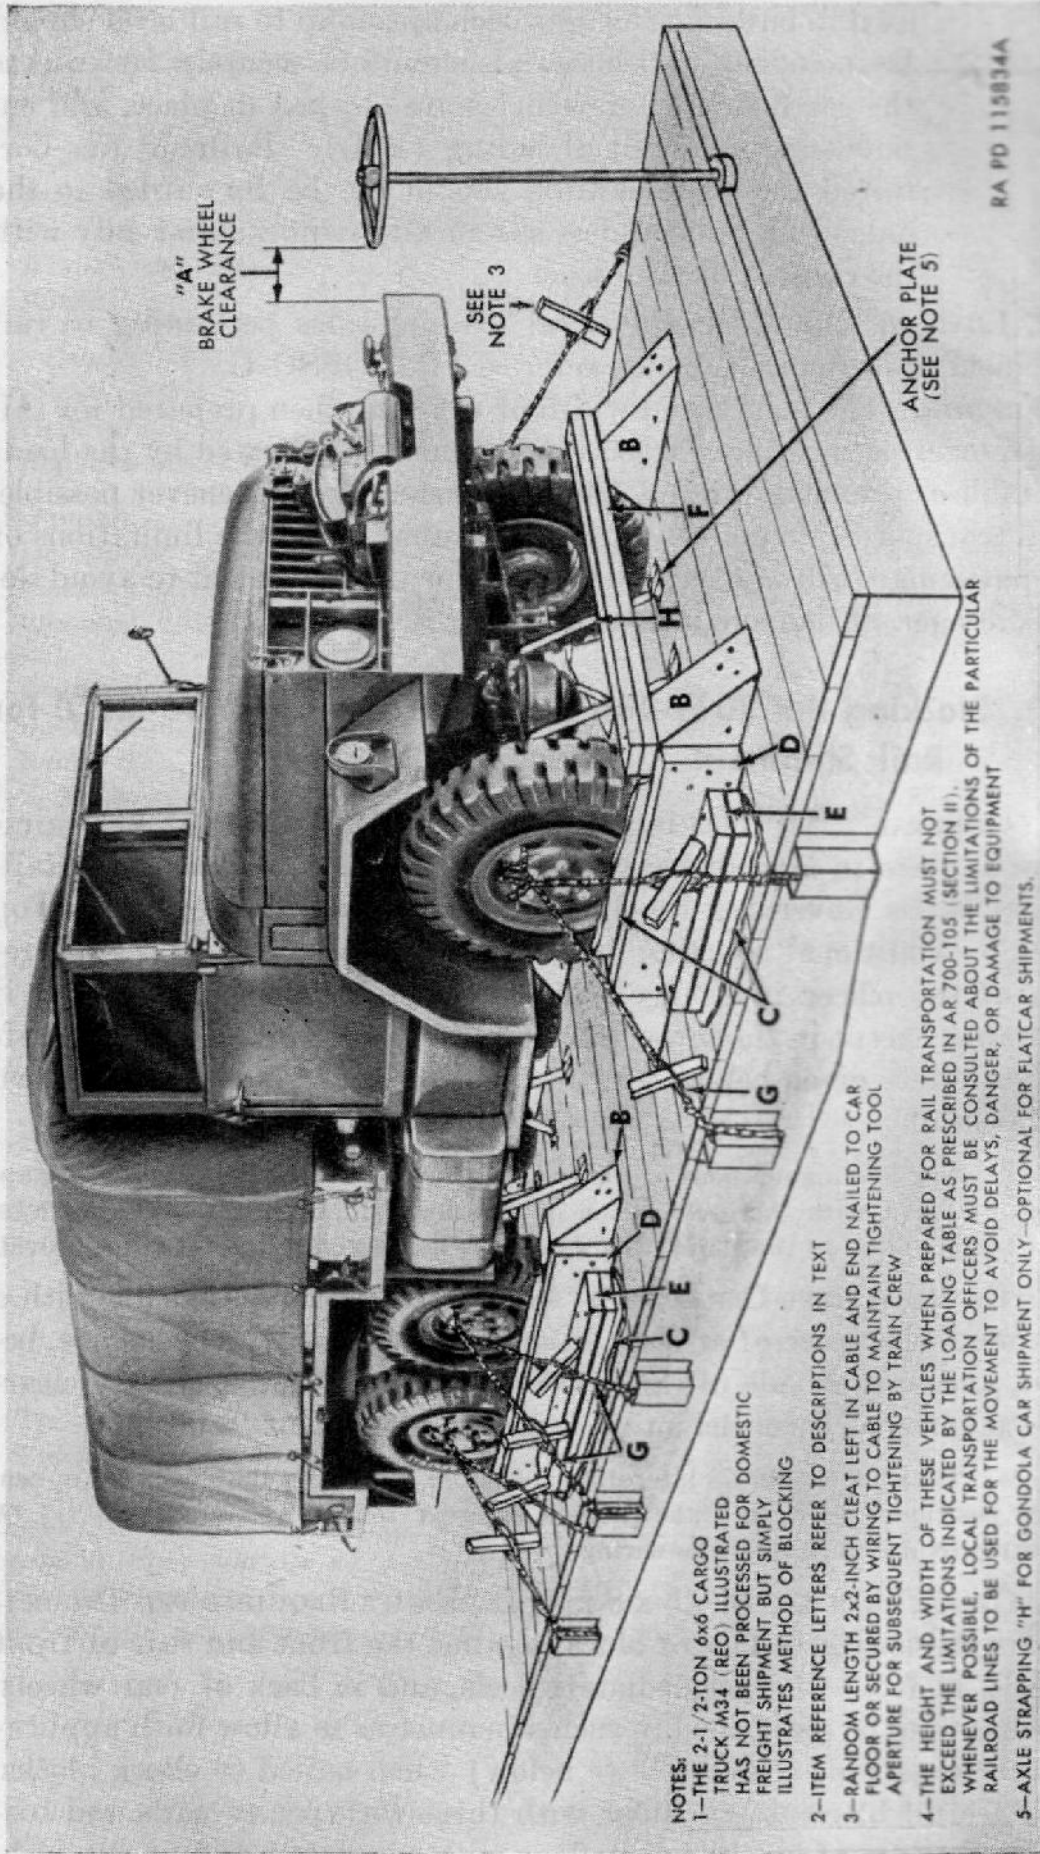
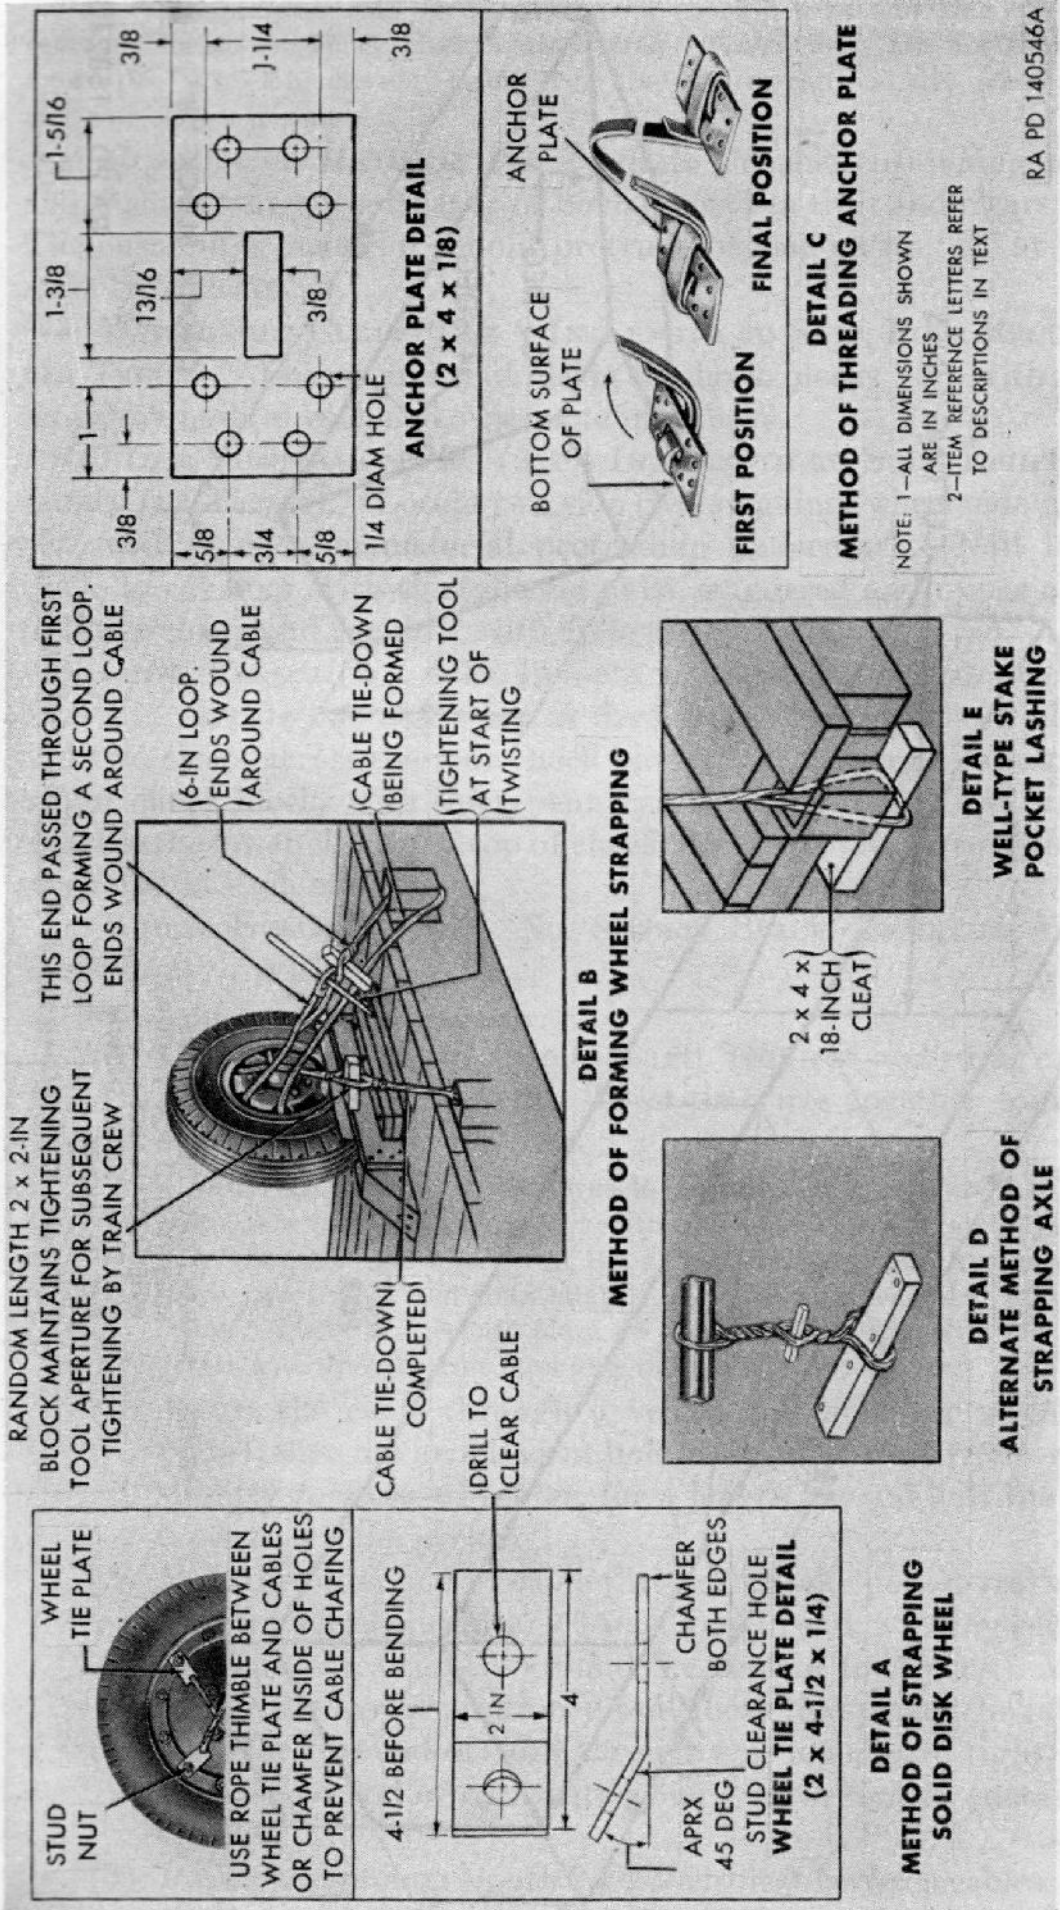

Figure 169. Method of blocking the 2 1/2-ton 6 x 6 cargo truck M34 (REO) for rail shipment.
Figure 170. Method of blocking the 20 1/2-ton 6 x 6 cargo truck M135 (REO) for rail shipment—blocking details.
a. GENERAL. All blocking instructions specified herein are minimum and are in accordance with the Association of American Railroads "Rules Governing the Loading of Commodities on Open Top Cars." Additional blocking may be added as required at the discretion of the officer in charge. Double-headed nails may be used if available, except in the lower piece of two-piece cleats. All item reference letters given below refer to the details and locations as shown in figure 169.
b. BRAKE WHEEL CLEARANCE "A." Load trucks on flatcars with a minimum clearance of at least 4 inches below and 6 inches above, behind, and to each side of the brake wheel (fig. 169). Increase clearance as much as is consistent with proper location of load.
Note. Filler cleats may be used between chock blocks and side cleats to centrally locate the chock block against tires. These cleats are not shown in figure 169. Chock blocks may be cut from timbers (or railroad ties, when available) as shown in figure 171.
Note. If perforated disk wheels (ventilating type) are used, insert cable through an upper ventilating hole then out an adjoining hole (figs. 169 and 170, detail B). If solid disk wheels are used, remove two upper stud nuts slightly forward and rearward of wheel center. Place a wheel tie plate on each stud for strapping (fig. 170, detail A). Install stud nuts and tighten securely.
- (2) Insert the cable through a ventilating hole (or wheel tie plate), then out an adjacent hole at upper part of front wheel slightly *forward* of center, for a length beyond half the distance to a stake pocket.
- (3) Pass the other end of cable through a stake pocket rearward of front wheel and form a 6-inch loop in end, winding each of the four wires tightly around the cable a few turns. Make certain the loop is positioned well above the span of the cables.
- (4) Pass the free end of cable through this loop, hand tight, and again wind end of each wire around cable *tightly* (detail B, fig. 170).
- (5) Position a random length 2 x 2-inch cleat between cables.
- (6) Insert end of a tightening tool at approximate center of cables and twist-tie cables just taut enough to remove all slack, retaining cleat in its position between cables.
- (7) Form another cable and pass end through a ventilating hole (or wheel tie plate) then out an adjacent hole at upper part of front wheel slightly rearward of center crossing initial cable.
- (8) Pass other end of cable through a stake pocket *forward* of front wheel and complete and twist-tie as described above.
- (9) Repeat above operations for all the other wheels.
- (10) Cables are passed through stake pockets so that the cable loop lies against the car frame. A short stake driven into each stake pocket will protect the cable loop from chafing and loosening. (These stakes are omitted in figure 169.) If flatcars are received where flooring is flush against the top of the well-type stake pockets, a loop of cable is passed through the stake pocket, and a short cleat about 2 x 4 x 18 inches is inserted in the loop below the stake pocket. Subsequent tightening of the cable will cause it to draw the wooden cleat securely against the bottom of stake pocket (detail E, fig. 170).
i. AXLE STRAPPING "H." (For gondola cars *only*—optional for flatcar strapping.) Locate two pieces of 1¼ x 0.035-inch hot-rolled steel strapping over each axle close to wheels. Coil strapping around steel anchor plates as shown in detail C, figure 170. Secure by nailing anchor plates to car floor with not less than six twentypenny nails (double-headed nails preferred). As an alternate method of securing axles, form and substitute a cable (consisting of four strands of No. 8 gage black annealed wire or wires of equivalent strength) at each location for steel strapping "H." Pass cables over axle and around wooden cleats (2 x 4 x 18 in.). Locate cleats lengthwise of car and nail to car floor with thirtypenny nails in each cleat. Join both ends of cable together, as prescribed in *h* above, and twist taut with tightening tool just taut enough to take up slack (detail D, fig. 170).